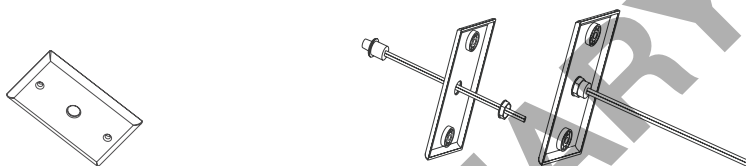

Figure 2-1
1. Attach the indicator to the Single Gang Jbox Face Plate (refer to Figure 2-1)